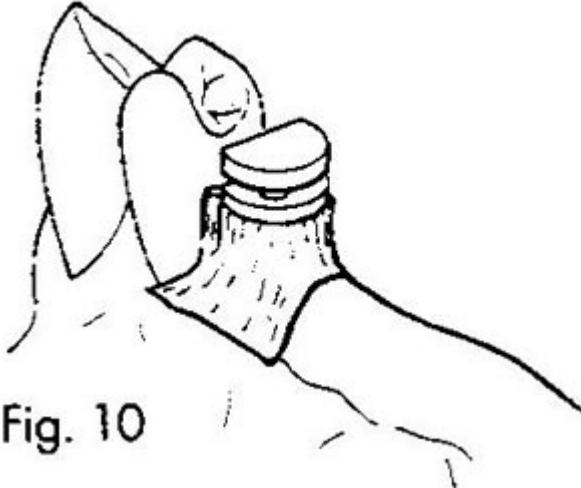

Fig. 10
3. **Block out the gingival space underneath the attachment (FIG 10).** Take a reline impression using the partial denture as a tray, exercising caution not to displace the soft tissue. The Impression Males are designed with minimum retention to be drawn in the impression. Take impression.